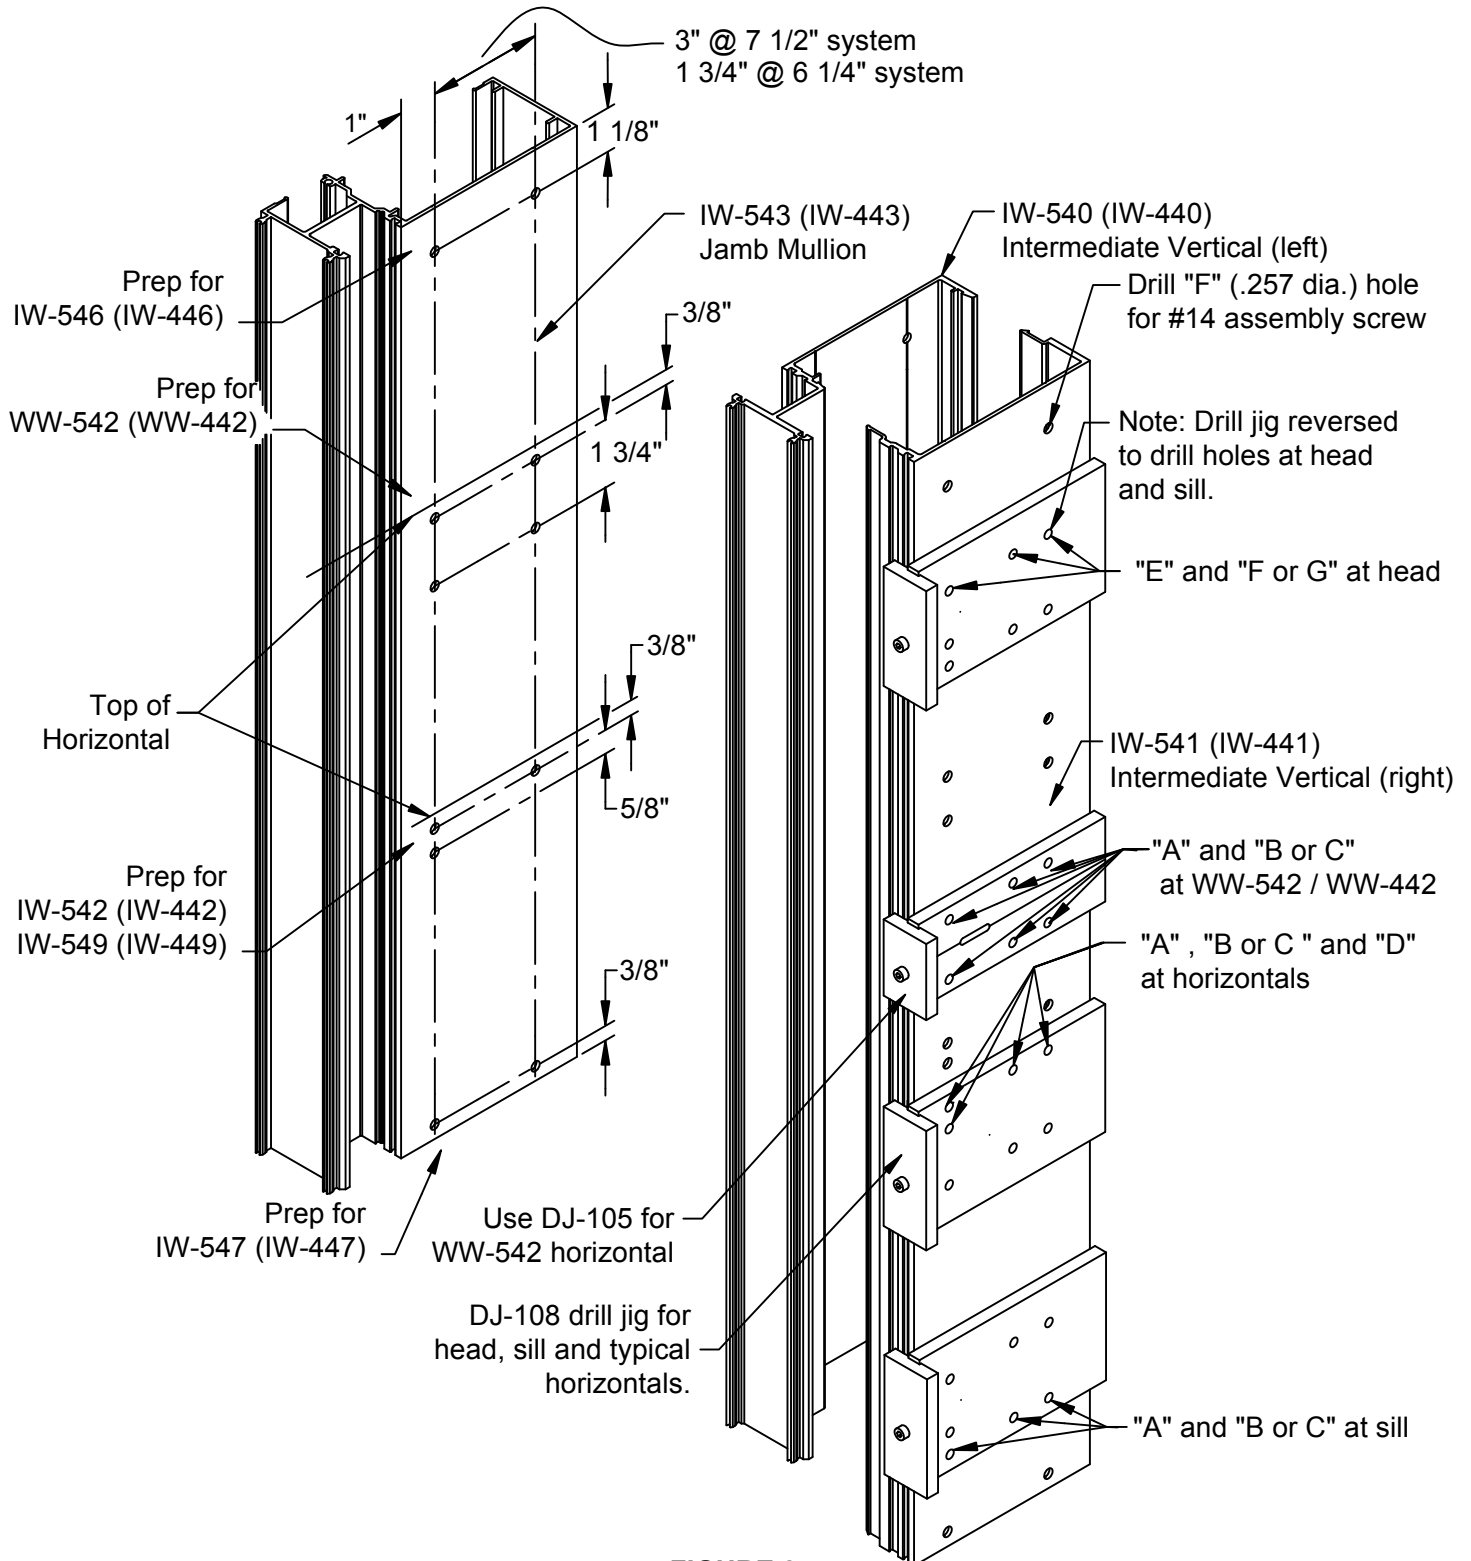

**FIGURE 1**
- 1.2. Cut material to size. SEE FIGURE 1, page 5 for guide.